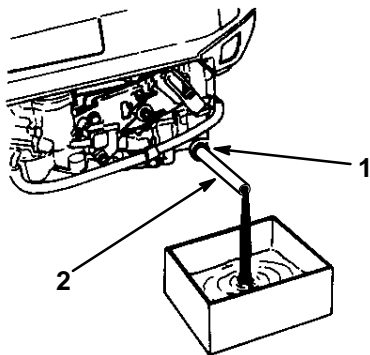

Figure 14
4. Raise the left side of the mower at least 12 inches and open the side oil drain plug (Fig. 14).
5. Insert the oil drain tube over the drain plug and lower the mower (Fig. 14).